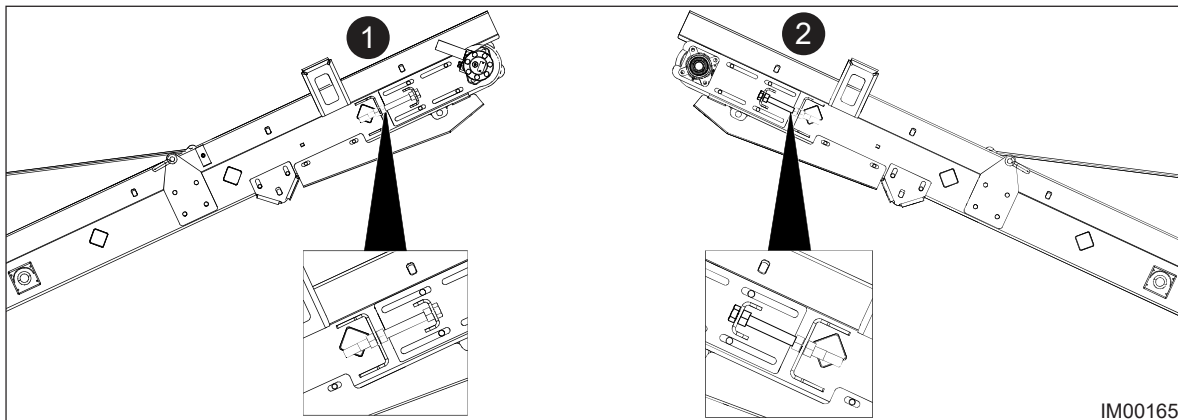

Fig: 11.25 - Belt Adjusters
6. Tighten the belt by rotating the adjusters clockwise and evenly, on both sides of the conveyor (Items 1 & 2, Fig: 11.25). It is important to turn each adjuster the same rotation, otherwise, the belt will track off alignment when put into operation. Do not over tighten the belt.
- Use a spanner to rotate the right side adjuster (Item 1, Fig: 11.25) a 1/4 turn (clockwise), then observe the belt alignment. Repeat this step until alignment is satisfactory.
- If the belt was under too much tension, rotate the left side adjuster (Item 2, Fig: 11.25) a 1/4 turn (counter-clockwise), then observe the belt alignment. Repeat this step until alignment is satisfactory.
- Use a spanner to rotate the left side adjuster (Item 2, Fig: 11.25) a 1/4 turn (clockwise) then observe the belt alignment. Repeat this step until alignment is satisfactory.
- Or if the belt would be under too much tension, rotate the right side adjuster (Item 1, Fig: 11.25) - one turn (counter clockwise) then observe the belt alignment. Repeat this step until alignment is satisfactory.